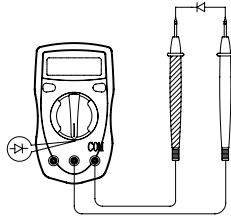

Figure 5
E. Diodes and Continuity Measurement (see figure 5) Testing Diodes